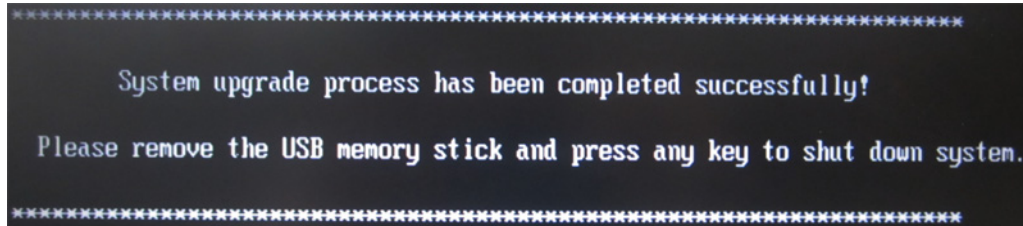

Figure 3-41 System upgrade complete
- 9.) After finish updating system, remove the USB memory stick and press any key to shut down the system. Refer to Figure 3-41 on page 3-42 .